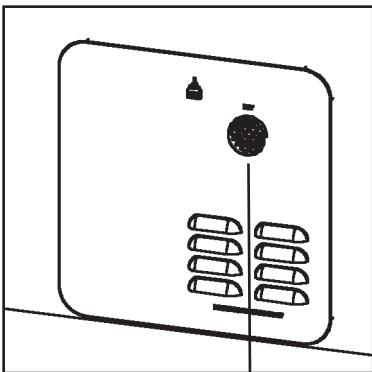

Figure 6
2. The exhaust tube extends beyond the door’s face through the clearance hole BUT not beyond the face of the door. Be sure that the exhaust tube is seated properly. See Figure 6